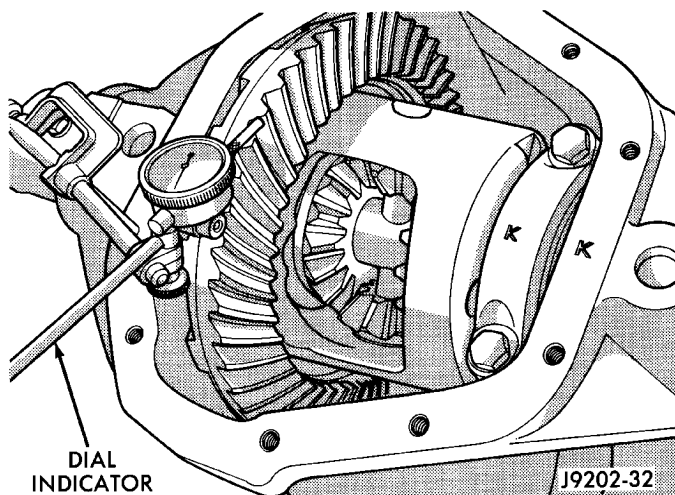
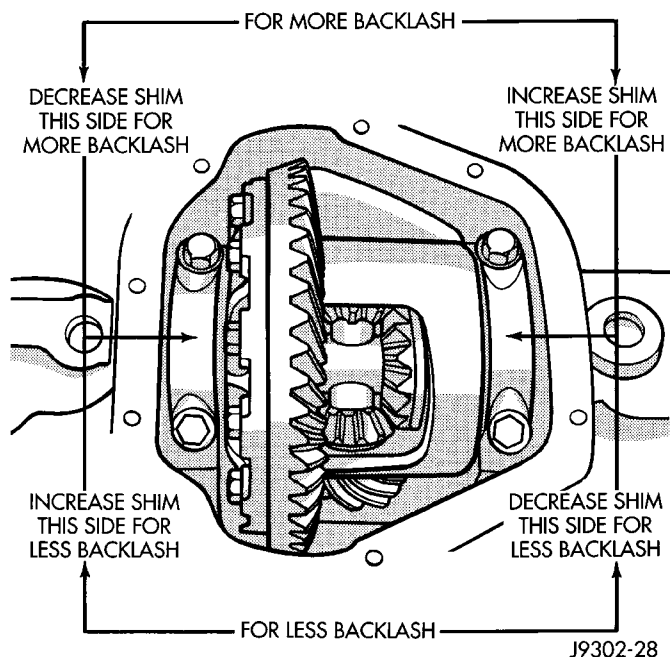

Fig. 79 Ring Gear Backlash Measurement
Fig. 80 Backlash Shim Adjustment
(26) Rotate dial indicator out of the way on guide stud.
(27) Remove differential case and dummy bearings from axle housing.
(28) Install new side bearing cones and cups on differential case.
(29) Install spreader W-129-B, utilizing some components of Adapter Set 6987, on axle housing and spread axle opening enough to receive differential case.
(30) Place side bearing shims in axle housing against axle tubes.
(31) Install differential case in axle housing.
(32) Rotate the differential case several times to seat the side bearings.
(33) Position the indicator plunger against a ring gear tooth (Fig. 79).
(34) Push and hold ring gear upward while not allowing the pinion gear to rotate.
(35) Zero dial indicator face to pointer.
(36) Push and hold ring gear downward while not allowing the pinion gear to rotate. Dial indicator reading should be between 0.12 mm (0.005 in.) and 0.20 mm (0.008 in.). If backlash is not within specifications transfer the necessary amount of shim thickness from one side of the differential housing to the other (Fig. 80).
(37) Verify differential case and ring gear runout by measuring ring to pinion gear backlash at several locations around the ring gear. Readings should not vary more than 0.05 mm (0.002 in.). If readings vary more than specified, the ring gear or the differential case is defective.